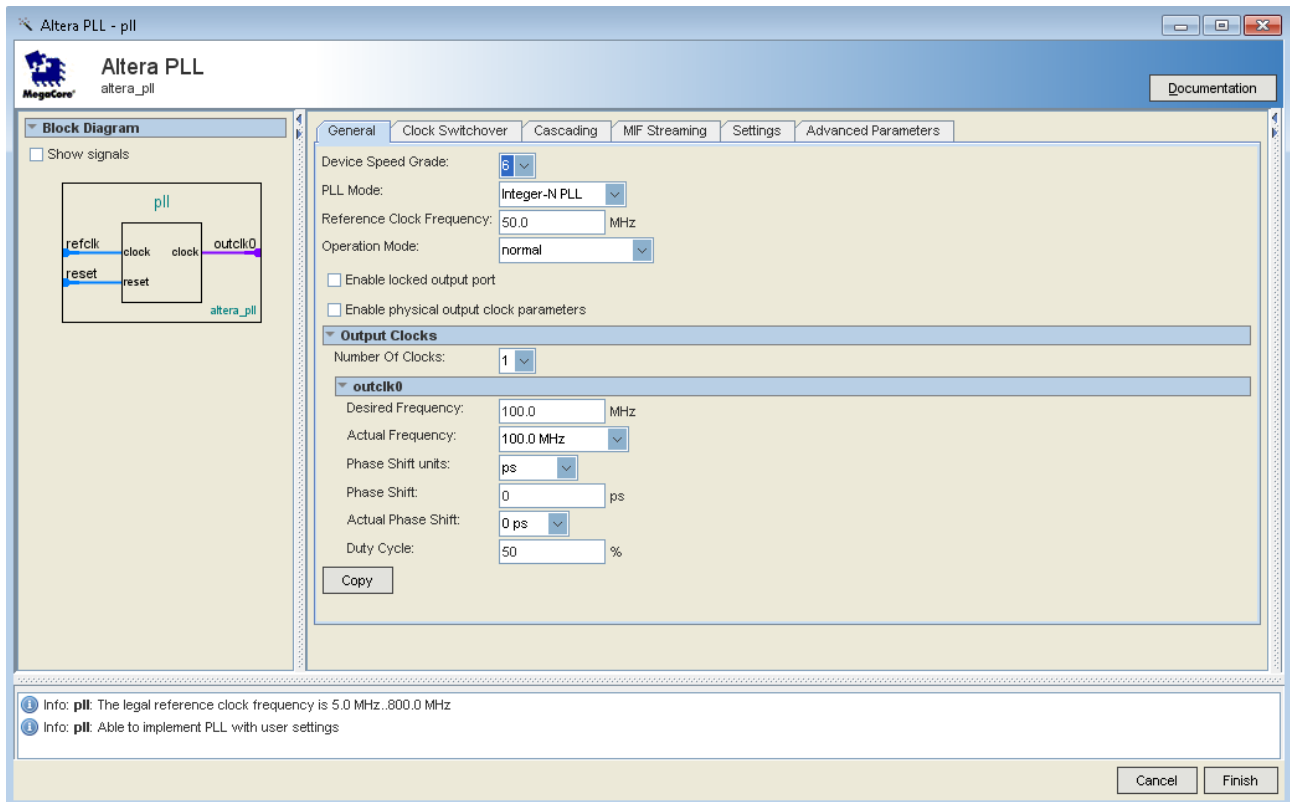

Figure 3-10 MegaWizard Plug-In Manager Selections
6. Turn off the Enable locked output port option on MegaCore. As you turn it off, pin disappears from the PLL block's graphical preview. See **Figure 3-10** for an example.